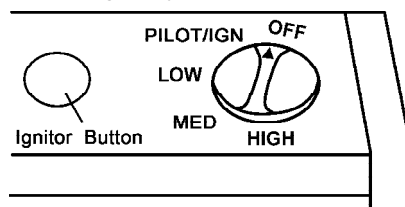

Figure 19 - Control Knob In The OFF Position
3. Push in control knob slightly and turn clockwise ↻ to the OFF position.(see Figure 19)